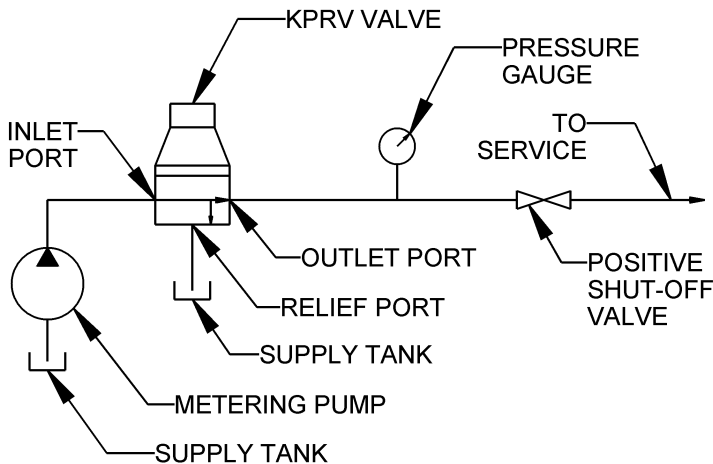

Figure 1
2. Install a pressure gauge and shut off valve to the outlet port of the KPRV valve. Make sure the pressure gauge is before, or upstream of the shut off valve as shown in Figure 1. Also ensure that the shut off valve is open all the way.